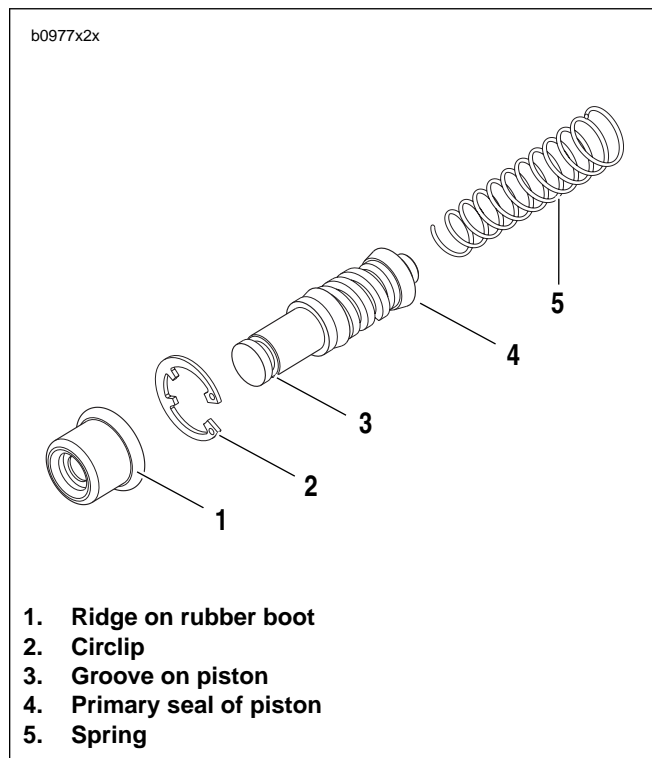

Figure 2-41. Front Master Cylinder Piston Assembly
2. See Figure 2-41. Assemble **new** piston components placing small end of spring (5) behind primary seal of piston (4).
6. See Figure 2-41. Install ridge on boot (1) into groove on piston (3).